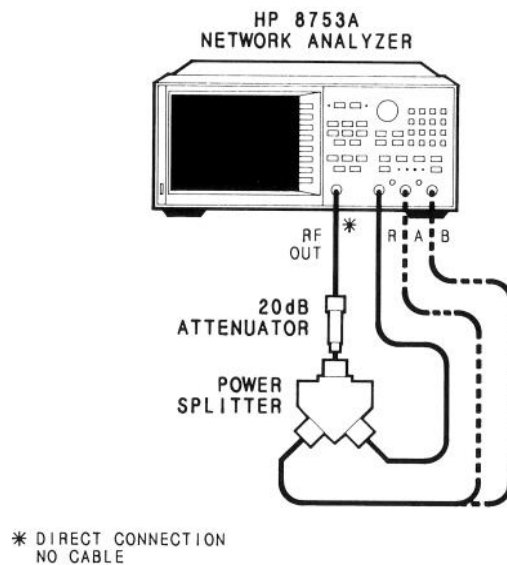

Figure 28. IF Amplifier Correction Constants Setup.
2. Connect the equipment as illustrated in Figure 28, with the power splitter connected to inputs R and A.
5. At the next prompt, connect the splitter to inputs R and A as illustrated in Figure 28. Then press **[CONTINUE]**.